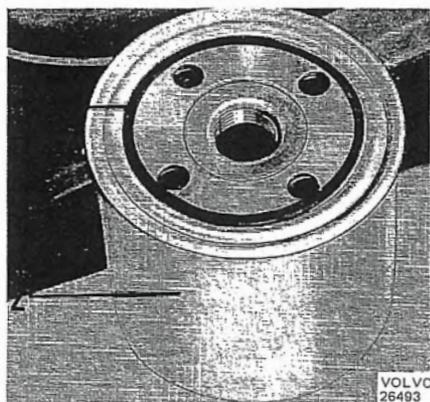

Fig. 2-50. Oil filter ready for fitting
2. Coat the rubber gasket (1, Fig. 2-50) of the new filter with oil and make sure that the contact surface for the oil filter is free from dirt. By smearing it with oil, the gasket slides into better contact with the sealing surface. Screw on the filter by hand until it just touches the cylinder block.